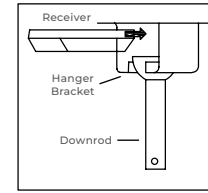
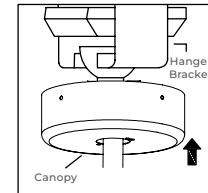
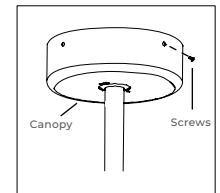
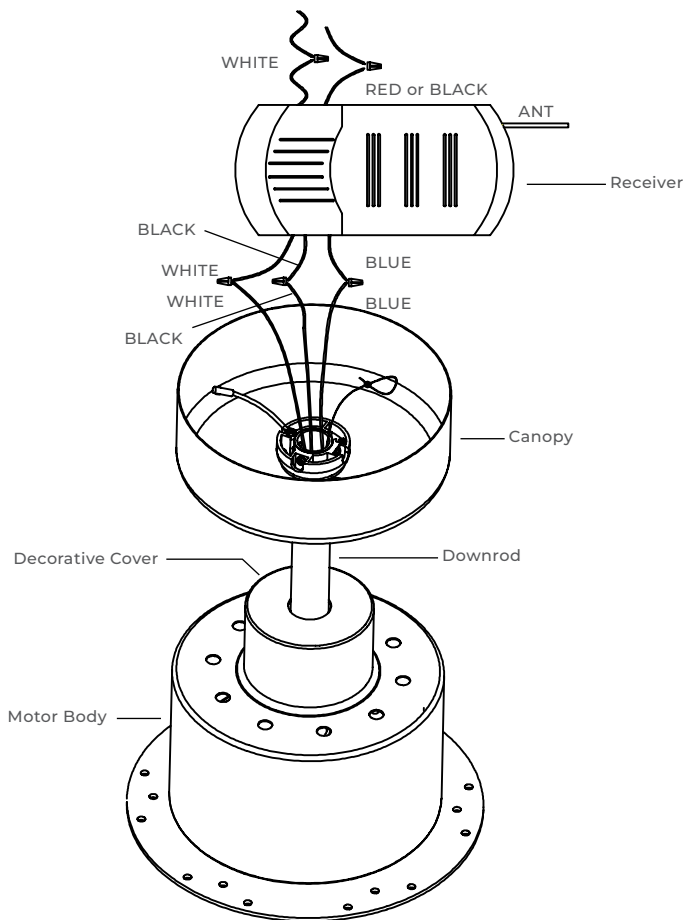

FIGURE 8
FIGURE 10
FIGURE 11
FIGURE 12
D) After ensuring the correct wiring (See Figure 12), insert the receiver into the hanger bracket as shown in Figure 8 and 9, install the canopy by covering the hanger bracket (Figure 10) and securing it with screws (Figure 11).